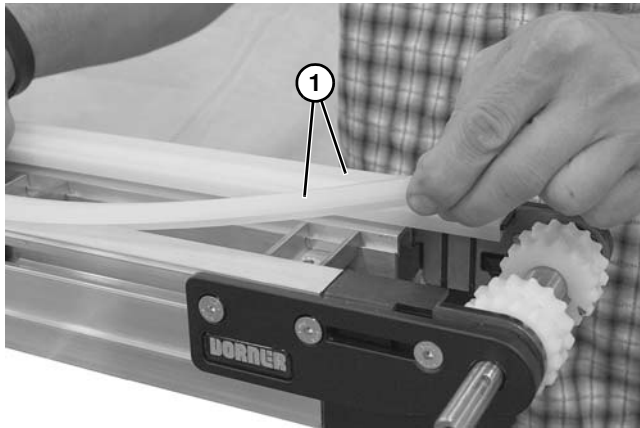

Figure 87
2. Remove upper wear strips (**Figure 87, item 1**).